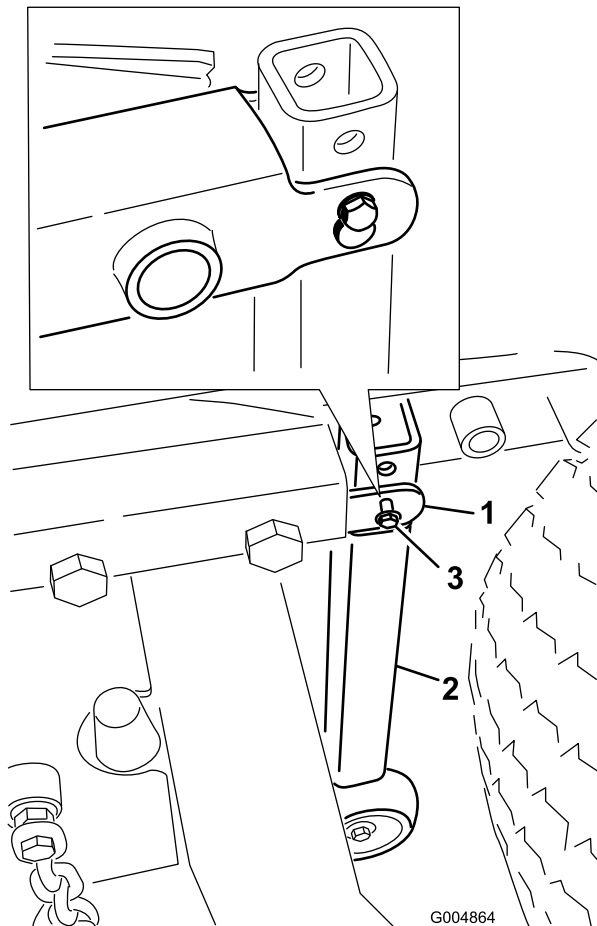

Figure 98
5. Install the vertical tube support assembly to each rear corner of the deck frame with a clevis pin and a 5-16" self-tapping screw pin retainer (Figure 98).